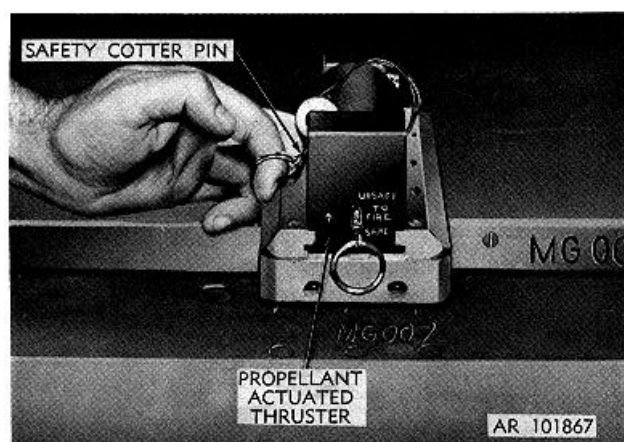

Figure 2-37. Removing safety cotter pin.
d. Remove safety cotter pin on left side of thruster (fig. 2-37) and place in equipment box.